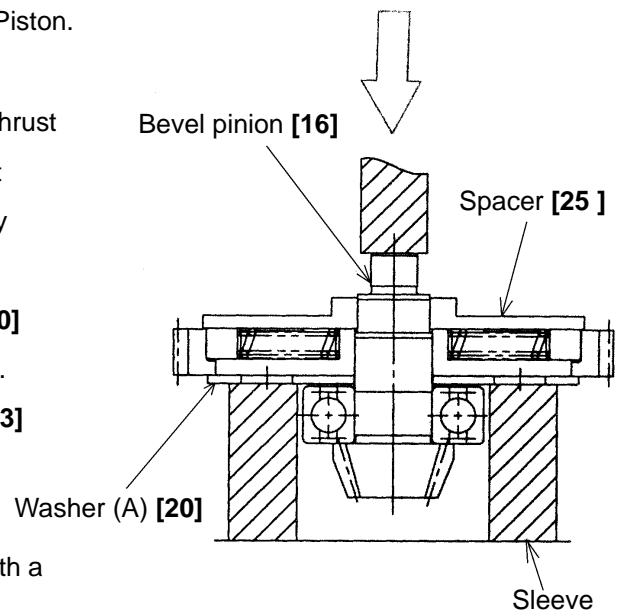

Fig. 17
The Slip Clutch Ass'y can be removed with the following procedure. First, pull out the Ball Bearing 629VV **[26]** with a bearing puller. Support Washer (A) **[20]** on a sleeve as shown in Fig. 17 and release the press-fitted Bevel Pinion **[16]** by pushing it from the Spacer **[25]** side using a hand press. When removing the Gear Holder **[21]** from the Second Gear **[24]**, it is recommended to keep them inside a vinyl bag during disassembly to prevent Springs (C) **[22]** and Needle Pins D6 x 6 **[23]** from scattering.